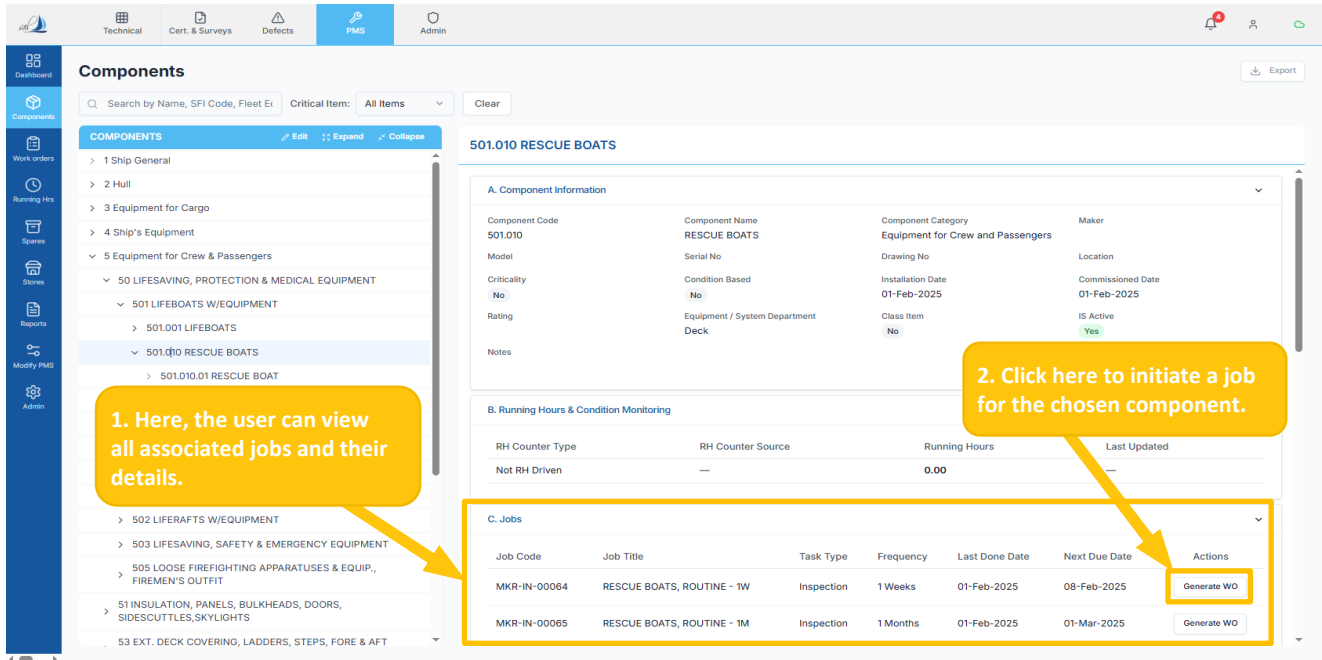

Figure 16
- In the Part C section, users can view all associated jobs for the component, including Task type, frequency, and last/next due dates. (Ref Figure 16)
- The user can click the 'Generate WO' button to create a WO manually for the selected component. (Ref Figure 16)